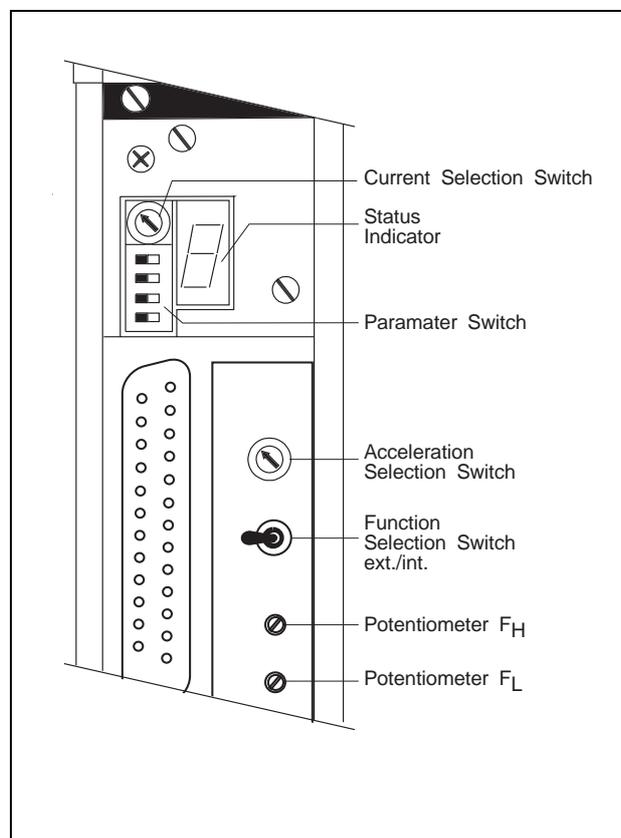
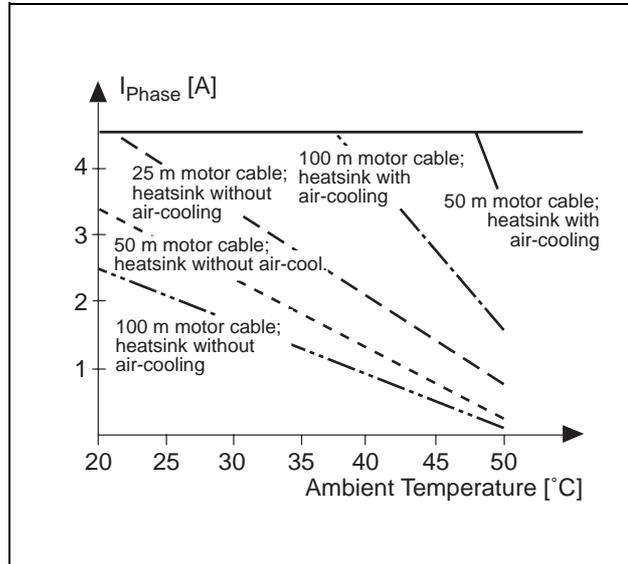
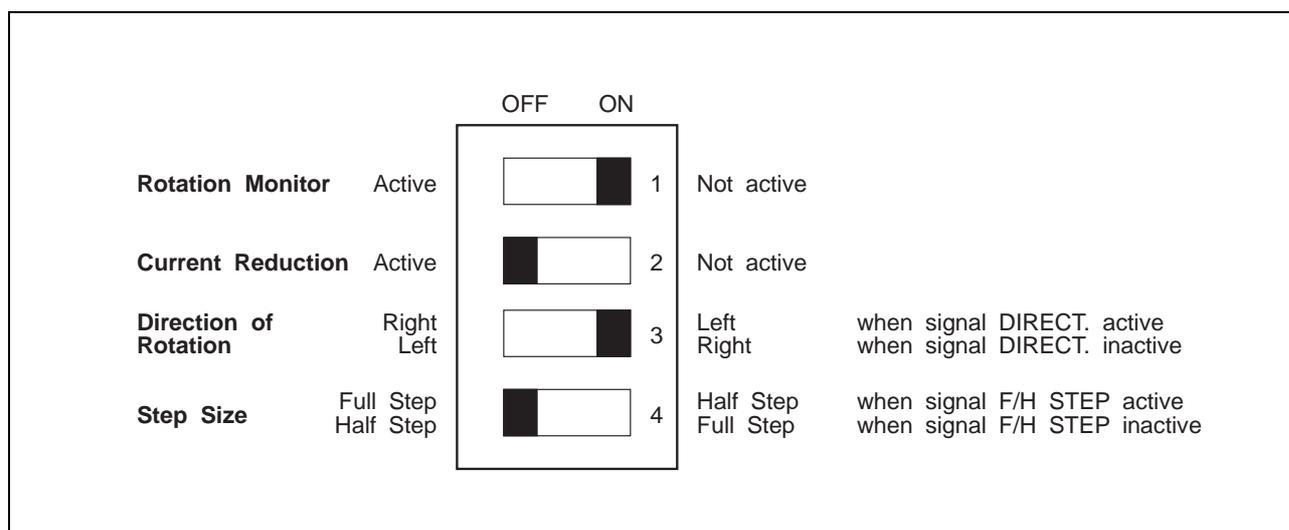

Figure 2-12 Adjustment Elements
Figure 2-13 Permitted Phase Current Dependent on Ambient Temperature and Length of Motor Cable
Figure 2-15 Switch Settings Parameter Switch
To drive the oscillator inputs/outputs ( $F_H/\overline{F}_L$ ,  $START/\overline{STOP}$ ) only the 3th and 4th circuit possibility are suitable because the -Inputs (Connections) of these inputs are connected together (OPTO GND see figure 2-13).
The basic adjustments are made with the Current Selection Switch and the Parameter Switch (see figure 2-12) as follows:
2. Adjust phase current at the rotary switch 01 (see figure 2-12) according to the motor data label. Pay attention to the diagram in figure 2-13.
- The automatic power reduction should, if possible, always be switched on in order to reduce the power dissipation (see figure 2-15).
1. Adjust desired parameters according to figure 2-15 with the DIL switch 03 (see figure 2-12). The basic adjustment as set by BERGER LAHR is depicted.
2. Set operational mode selection switch to 'int' position, see figure 2-12.
2. Set Acceleration selection switch to 'F', see figure 2-12.
Set the operational mode selection switch to the desired setting 'int/ext', see figure 2-12.
Dependent on the adjustment of the parameter switch 03/4 (see figure 2-15):
Dependent upon the position of the Parameter Switch 03/3 (see figure 2-15):
- During activation of the RM RESET, an active current reduction is blocked (see figure 2-15).